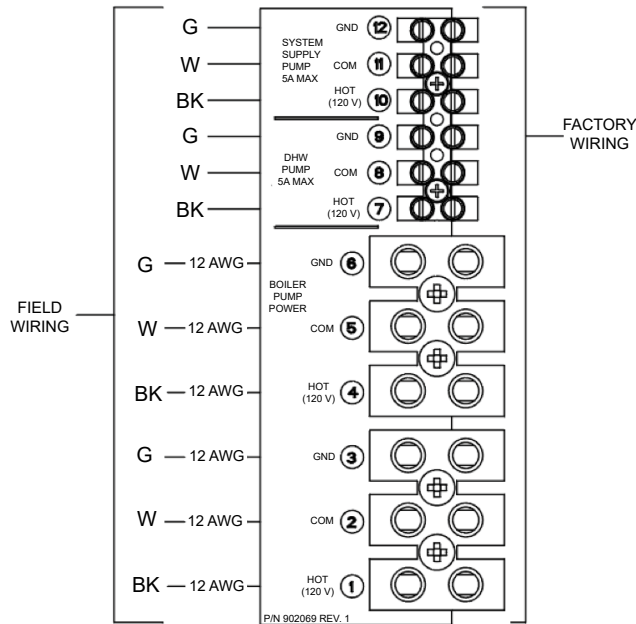

Figure 30. Cascade Master-Pumps
1. On the heater designated as the Master, connect the system pump enable wiring to the field-wiring terminal block inside the junction box. The connections are dry contacts rated for pilot duty only (5A maximum). See **Figure 30**.